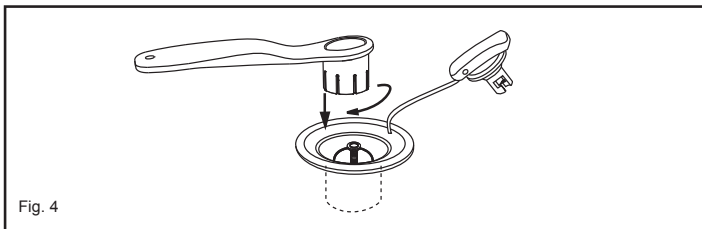

Fig. 4
5. Always carefully check and ensure the air valve is not leaking before using the kayak. If the air valve is leaking, use the provided wrench to tighten the valve. To securely tighten the valve, hold the valve from the bottom of the kayak and turn the wrench clockwise. After you have ensured the valve is not leaking, tighten the cap to close the valve. (Fig. 4)